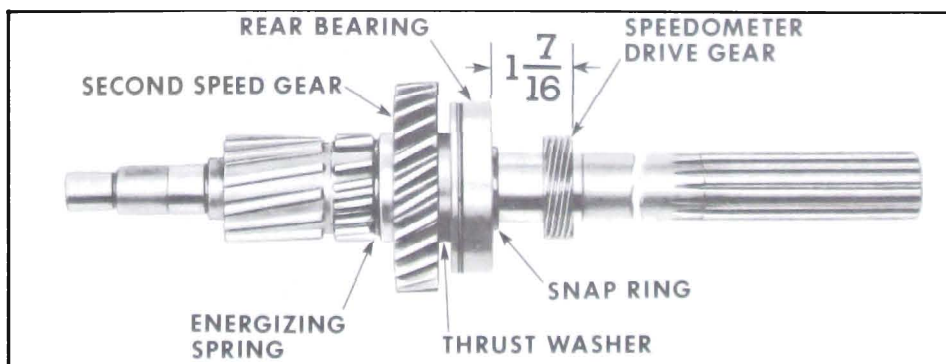

Figure 4-27—Mainshaft Identification
8. Start speedometer drive gear on shaft with chamfered I.D. of gear toward bearing. Press gear on shaft until forward face of gear is $7/8$ " from face of bearing. See Figure 4-27.